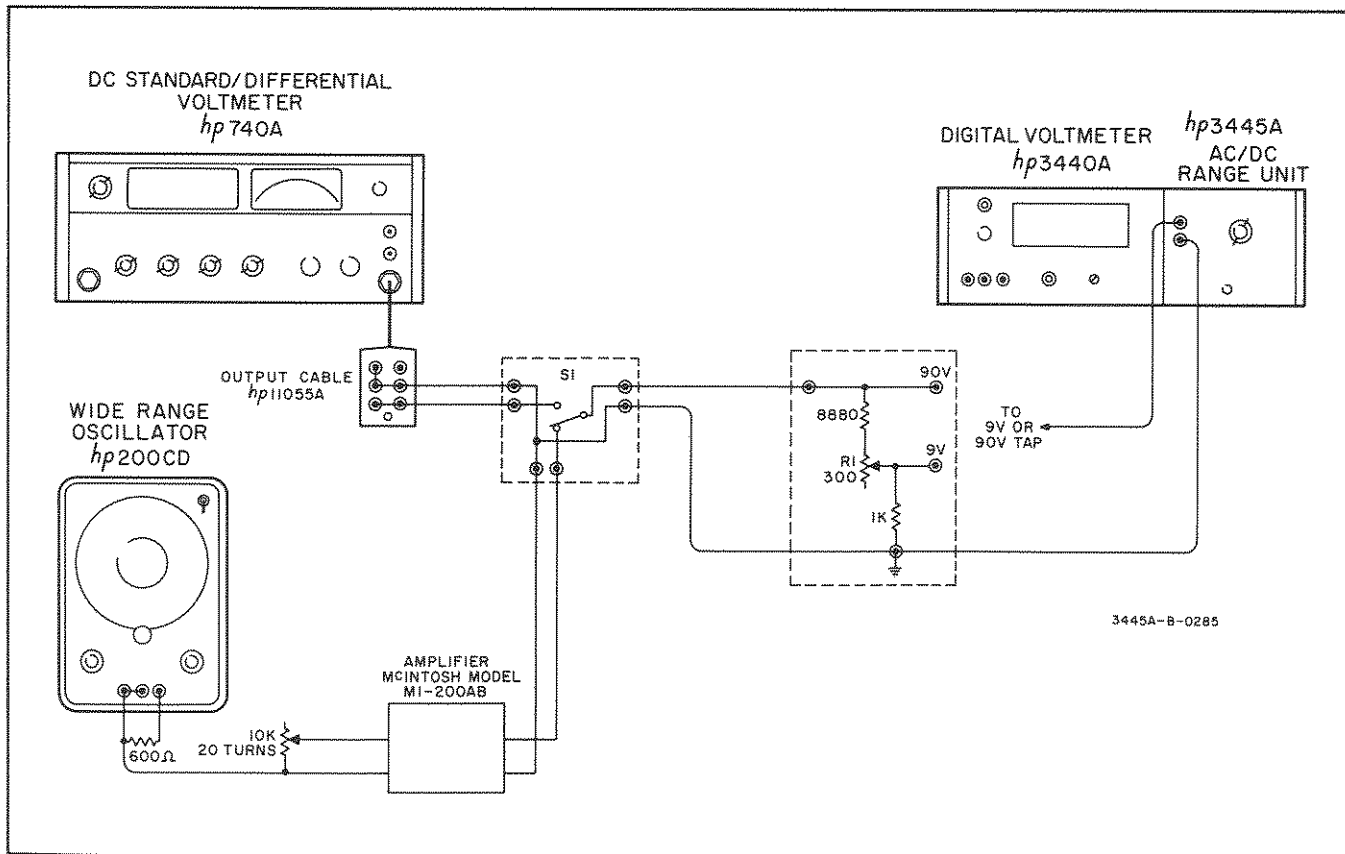

Figure 5-3. 100 V/1000 V AC Accuracy Check
- a. Figure 5-3 describes the test arrangement recommended.
- b. Connect the Model 3440A/3445A as shown in Figure 5-3. Set Model 3445A FUNCTION to DC; RANGE to 10 V. Connect INPUT to 10 v tap.
- Connect Model 3440A/3445A as shown in Figure 5-3. Using procedure outlined in Paragraph 5-16, apply 90 v, 100 cps signal to Model 3445A INPUT.